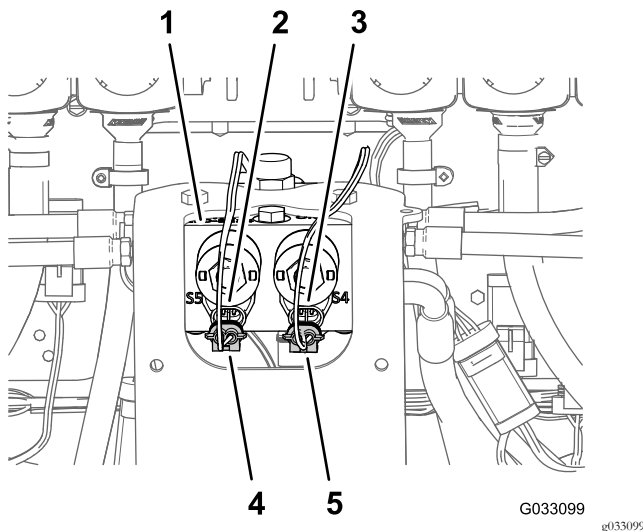

Figure 176
1. Connect the 2-pin connector of the sonic boom wire harness to the 2-pin connector of the right cylinder-enable solenoid of the lift-cylinder manifold (Figure 176).
2. Connect the 2-pin connector of the sonic boom wire harness to the 2-pin connector of the left cylinder-enable solenoid of the lift-cylinder manifold (Figure 176).